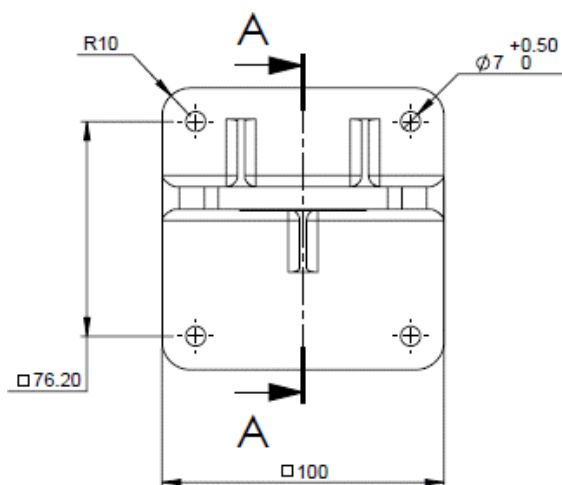

Figure 11 : Tilt Mount Base - Plate View
- Mount the tilt mount base (Figure 11) to a solid structure using four suitable fixings through the four 7mm (0.28") diameter holes. Four captive screws with spring washers are provided in the tilt mount.